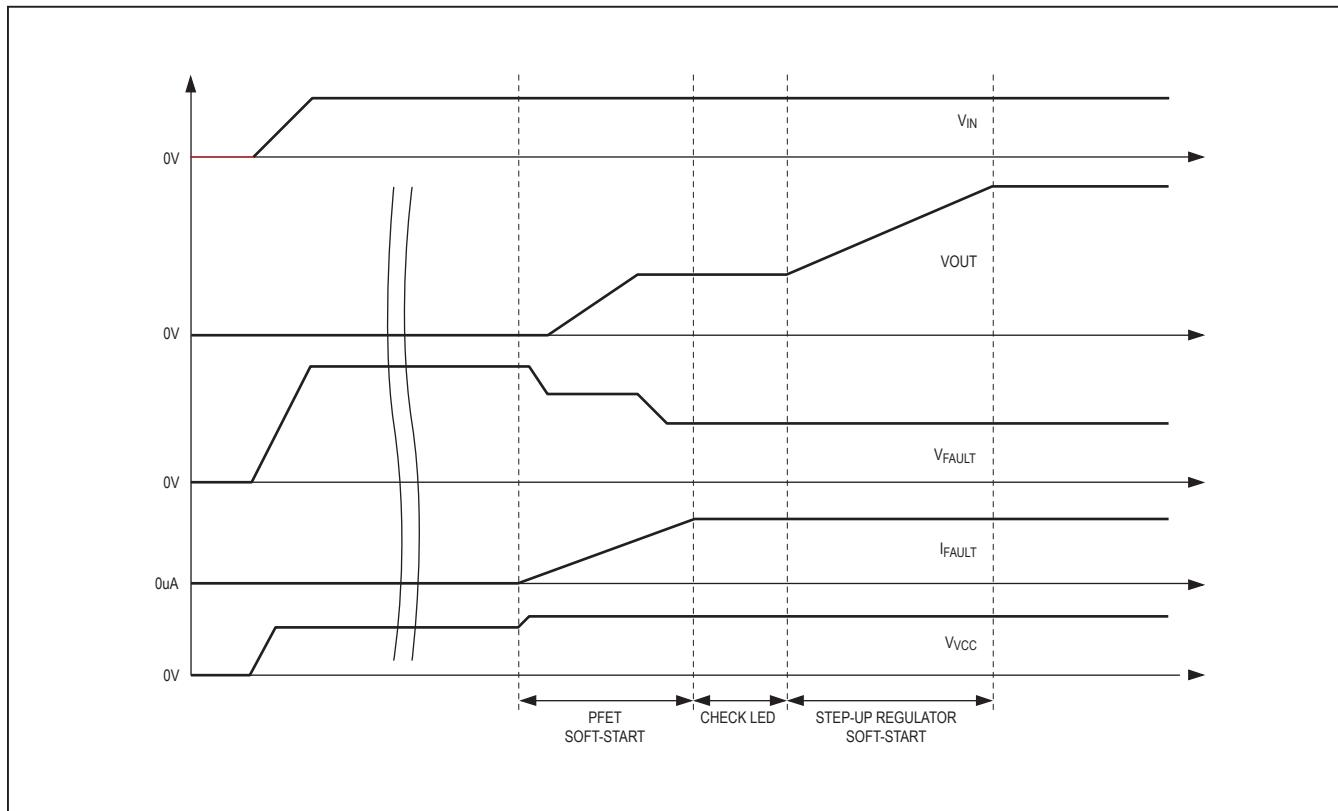

Figure 3. Startup Timing Sequence
0.8mA (typ, 0.4mA min) current source during 1ms (typ). If some FB_{_} voltage is lower than 1.2V (max), the string is considered to be unused. Therefore, when a string is not in use, it should be connected to SGND. All other strings with FB_{_} higher than 1.2V (max) are detected as in use. After the LED string diagnostic phases are finished, the step-up regulator starts. The total startup time is less than 10ms. Figure 3 shows the sequence.